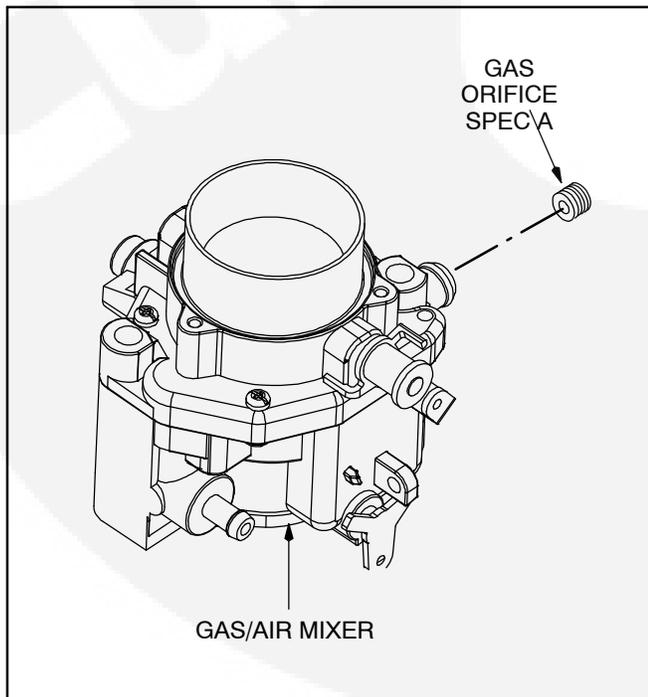

FIGURE 3-2. INSTALLING THE PROPANE GAS ORIFICE
1. Disconnect the fuel hose at the gas/air mixer and thread in the gas orifice wire-tied to the engine lifting bracket (Figure 3-2).